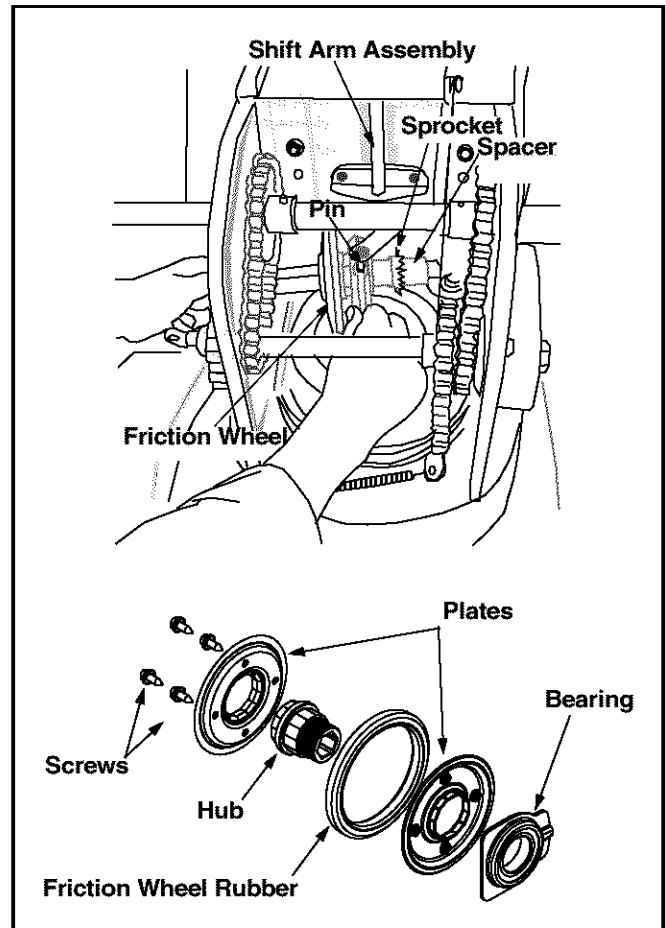

Figure 22
- Using a 7/8" wrench, hold the hex shaft and remove the hex bolts and bell washer and bearing from left side of the frame. See Figure 22.
- Remove the four screws which secure the friction wheel rubber between the friction wheel plates. See Figure 22.